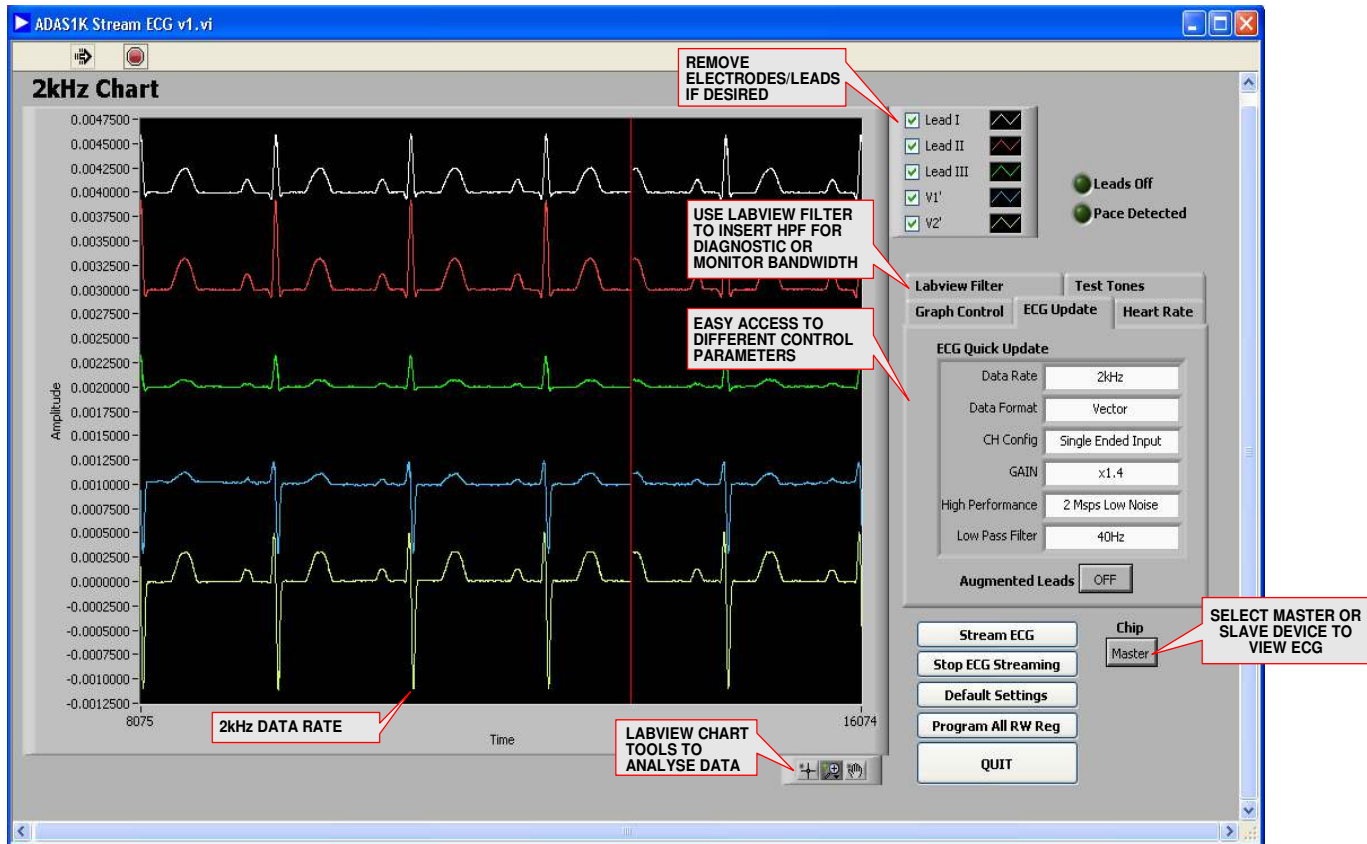

Figure 16. ECG Capture Window with Extra Filtering
- Once the appropriate registers are configured to start a capture, proceed to the ECG capture window. The ADAS1000 starts streaming ECG data. The signal shown in Figure 16 is a 60 bpm signal coming from the Fluke PS420 simulator.